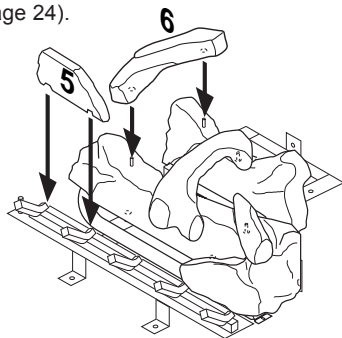

Figure 49 - Installing Logs No. 5 and No. 6
6. Place log #6 (left log) onto two pins on left side of back and front log. See Figure 49.